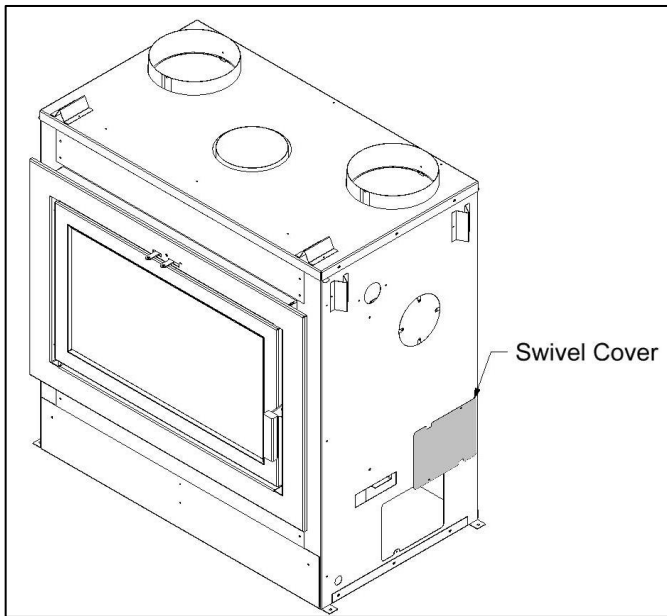

Figure 3-15: Intake Swivel Cover Kept Open for Clean Face Installations
6. Secure the Intake Swivel Covers on the bottom sides of the unit to the **open** position (Figure 3-15).
- The intake swivel covers at the bottom sides must remain open for all Clean Face installations. Refer to Figure 3-15.